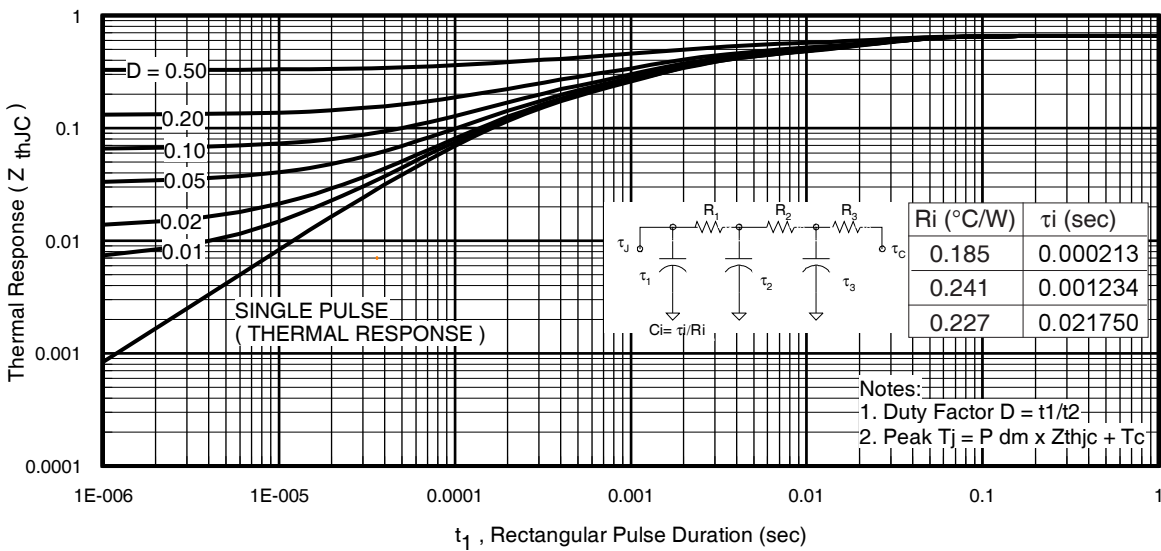

Fig 11. Maximum Effective Transient Thermal Impedance, Junction-to-Case
- ① Repetitive rating; pulse width limited by max. junction temperature. (See fig. 11).
- ② Limited by T_{Jmax}, starting T_J = 25°C, L = 0.079mH, R_G = 25Ω, I_{AS} = 75A, V_{GS} = 10V. Part not recommended for use above this value.
- ③ Pulse width ≤ 1.0ms; duty cycle ≤ 2%.
- ④ C_{oss eff.} is a fixed capacitance that gives the same charging time as C_{oss} while V_{DS} is rising from 0 to 80% V_{DSS}.
$Z_{thJC}(D, t_{av})$ = Transient thermal resistance, see figure 11)